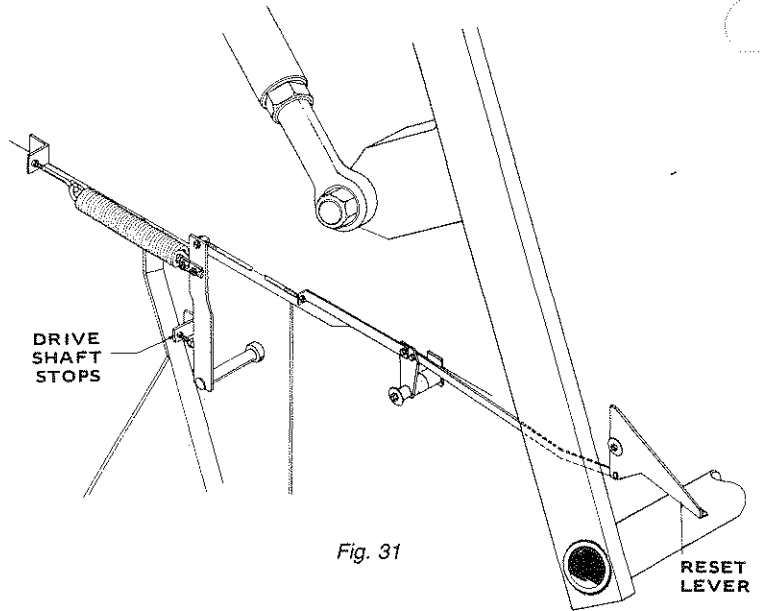

Fig. 31
4. Adjust the twine tensioner drive shaft stop, see *Fig. 31*, until the springs are compressed  $\frac{1}{2}$  inch from relaxed length. The relaxed length is when twine can be pushed through the twine tensioner.